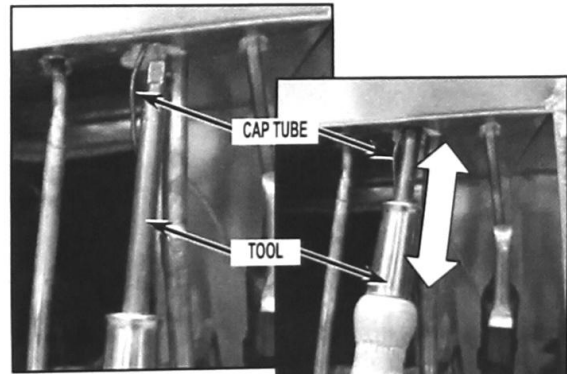

FIGURE 3
4. Insert and remove a 8" blunt end tool into the cabinet next to the cap tube. Repeat this process as you rotate the tool around the cap tube. See *Figure 3*.